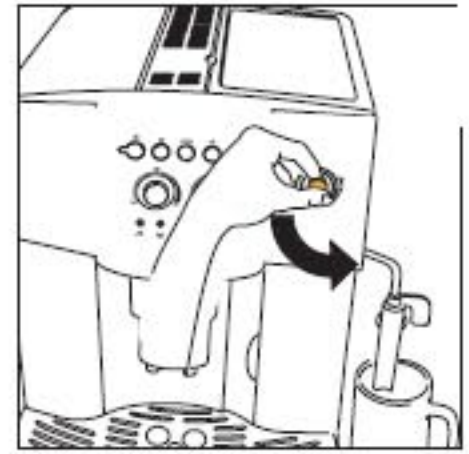
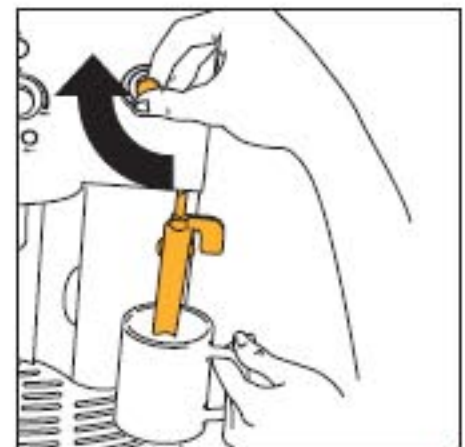
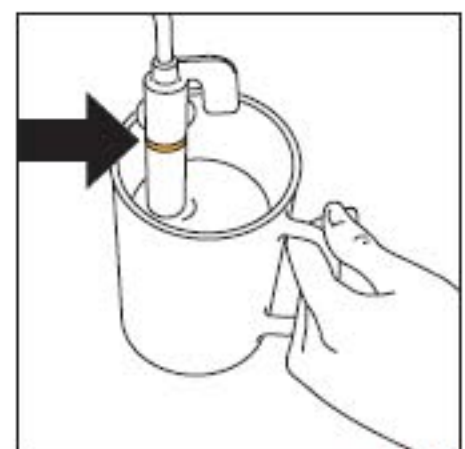

Fig.5
Fig.23
Fig.24
3. **IMMEDIATELY AFTER, WITHIN A MAXIMUM OF 30 SECONDS,** turn the steam knob anticlockwise until it stops (Fig.5) (it is normal for the machine to make some noise).
- Turn the steam knob half a turn in anticlockwise until it stops (Fig. 5): hot water will come out of the milk frother and start to fill the container underneath.
- **Immediately after, within a maximum of two minutes** (otherwise the machine automatically returns to the coffee function), dip the milk frother into the container of milk (Fig. 23), making sure not to immerse the line in relief on the milk frother (indicated by the arrow in Fig. 24) and turn the steam knob half a turn anticlockwise until it stops (Fig. 5). *(Be careful, to avoid being scalded).* The steam released will make the milk froth and increase in volume. To make creamier foam, dip the milk frother into the milk and rotate the container with slow movements from the bottom to the top (you are recommended to limit steam delivery to no more than two minutes at a time).
- Release a little steam for a few seconds by turning the steam knob anticlockwise until it stops (Fig. 5).